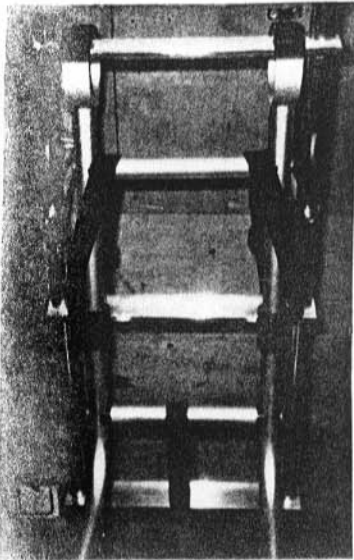

FIG. 5
4. Use third 30" Strap w around the center of the lower crossbar and the step of the ladder immediately below the crossbar (FIG. 5). NOTE: See FIG. 4b for threading instructions. **PULL STRAP TIGHT AFTER CONTAINER IS FILLED!** Extra strap length should be tied off. **IMPORTANT:** The Buckle must be on a straight section to tighten.